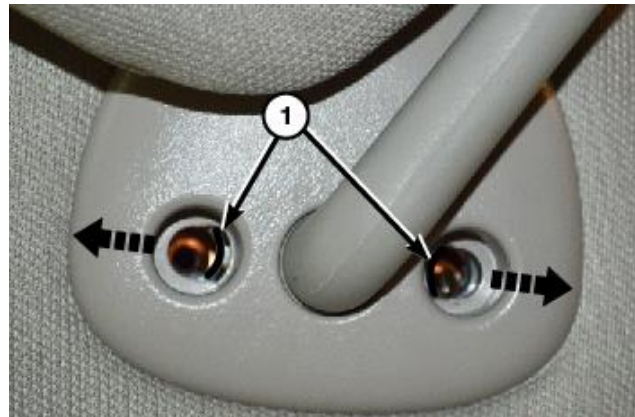

Figure 80 – Visors
Using a small flat bladed tool or equivalent, release the retaining tabs (1) and separate the visor from the headliner (Figure 80).